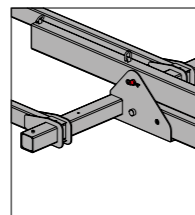

Fig. 5.2
- Remove the cotter pin and pull the bolt out of the central connection (Fig. 5.2).